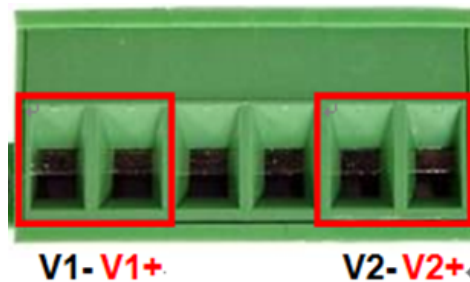

Figure 2.11 - Power Terminal Block
1. Insert the positive and negative wires into the PWR1 (V1+, V1-) and PWR2 (V2+, V2-) contacts on the terminal block connector as shown below in *Figure 2.11*.